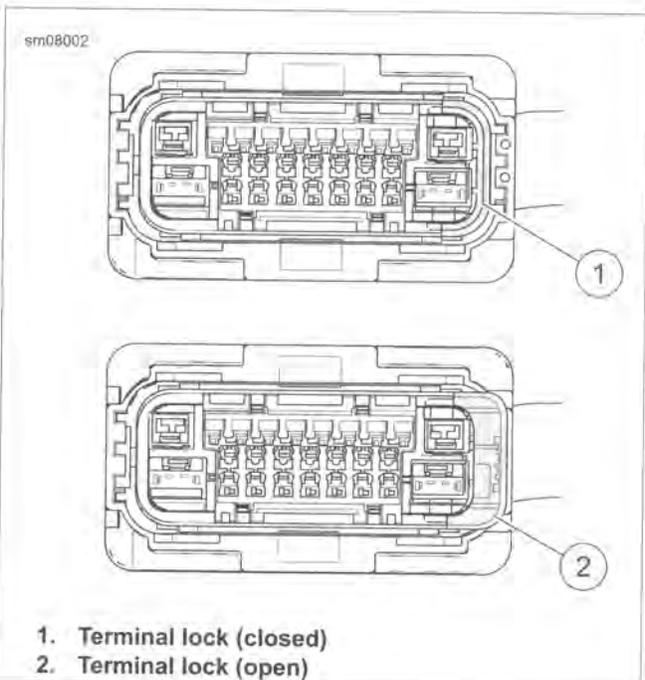

Figure A-9. Bosch BTC Sealed Connector Terminal Lock
- a. See Figure A-9. With the blade of a small screwdriver, gently pry the terminal lock (1) open (2).